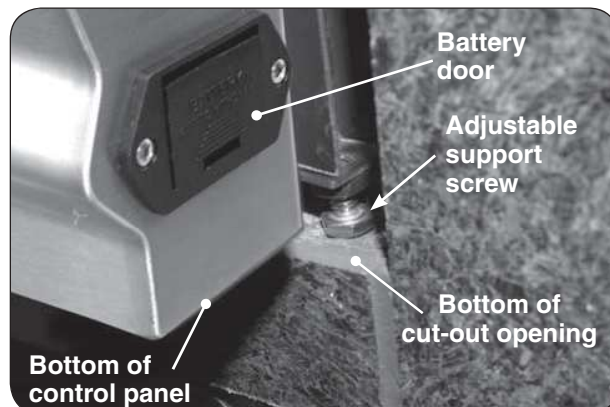

Fig. 17-1 Adjust support screws
6. Rotate the adjustable support screws to the left to raise and to the right to lower the respective side of the appliance grill. Use a $\frac{7}{16}$ " open-end wrench as needed. See Fig. 17-1.